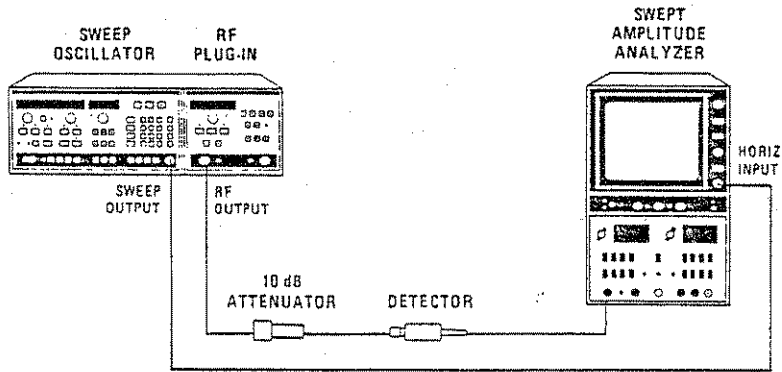

Figure 5-32. Internal Leveling Adjustment Test Setup
1. Connect equipment as shown in Figure 5-32 with the 8755C monitoring the RF output through the 10 dB attenuator. On the 8350A, press [INSTR PRESET] MOD1. Allow the equipment to warm up for 1 hour.